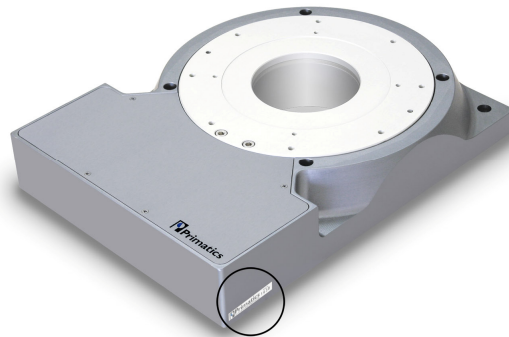

Figure 9-1: PLR350 S/N Location
- Unit Serial Number (see Figure 9-1)